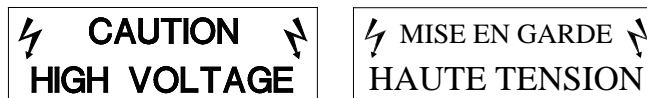

Figure 1-3
- Figure 1-3 pertains to the electrical safety of the Chamber. It is necessary because of the high voltage present (up to 180 Volts DC) in the Chamber. A screwdriver is necessary to remove the cover.